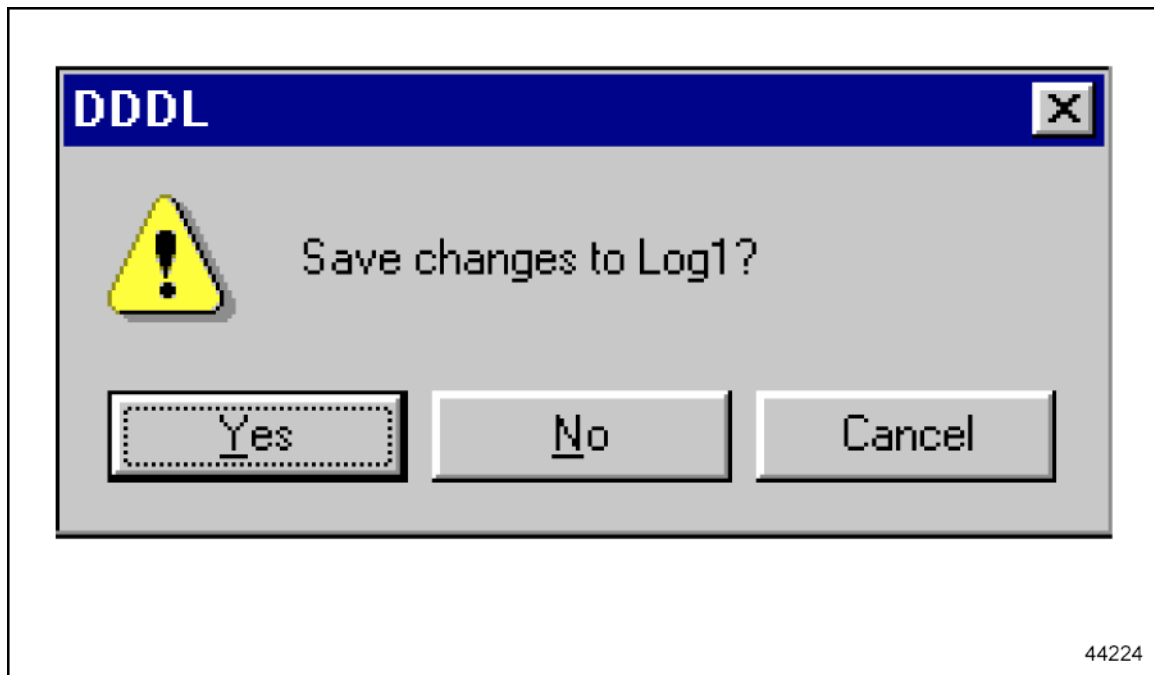

Figure 6-3 **Stop Recording ESC Options**
7. Immediately upon selecting the **Stop Recording ESC** option, a dialog box will appear asking to save the changes. To save the recorded data to the hard drive, click once with the left mouse button on the **Yes** option. To discard the data recorded by the snapshot, click on the **NO** option. See Figure 6-3.